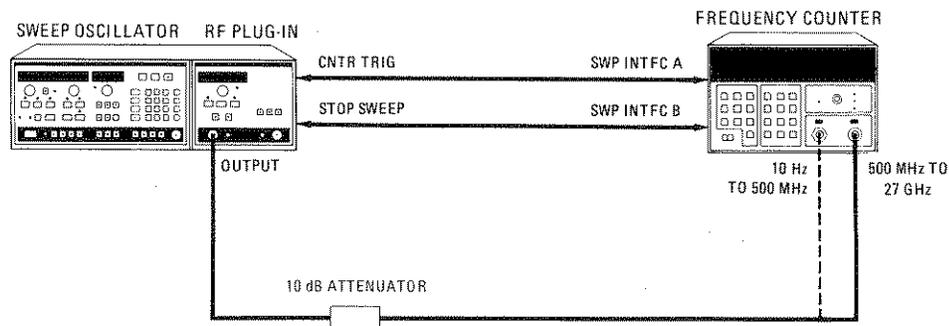

Figure 4-1. Frequency Range and CW Accuracy Test Setup
1. Connect equipment as shown in Figure 4-1.